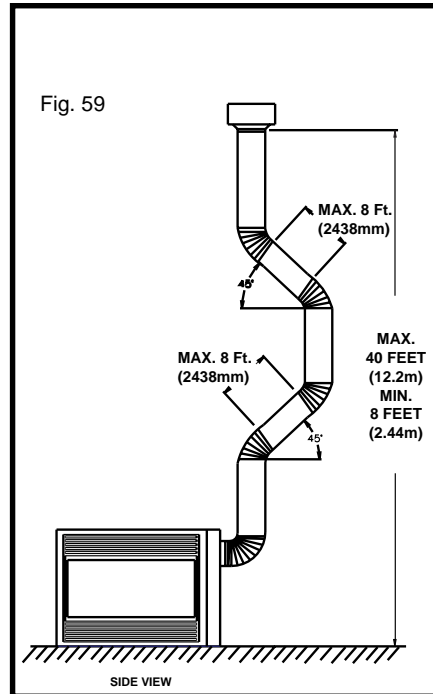

Fig. 59
- Two sets of 45 degree elbow offsets within these vertical installations. From 0 to a maximum of 8 ft. a vent pipe can be used between elbows. (Fig. 59)